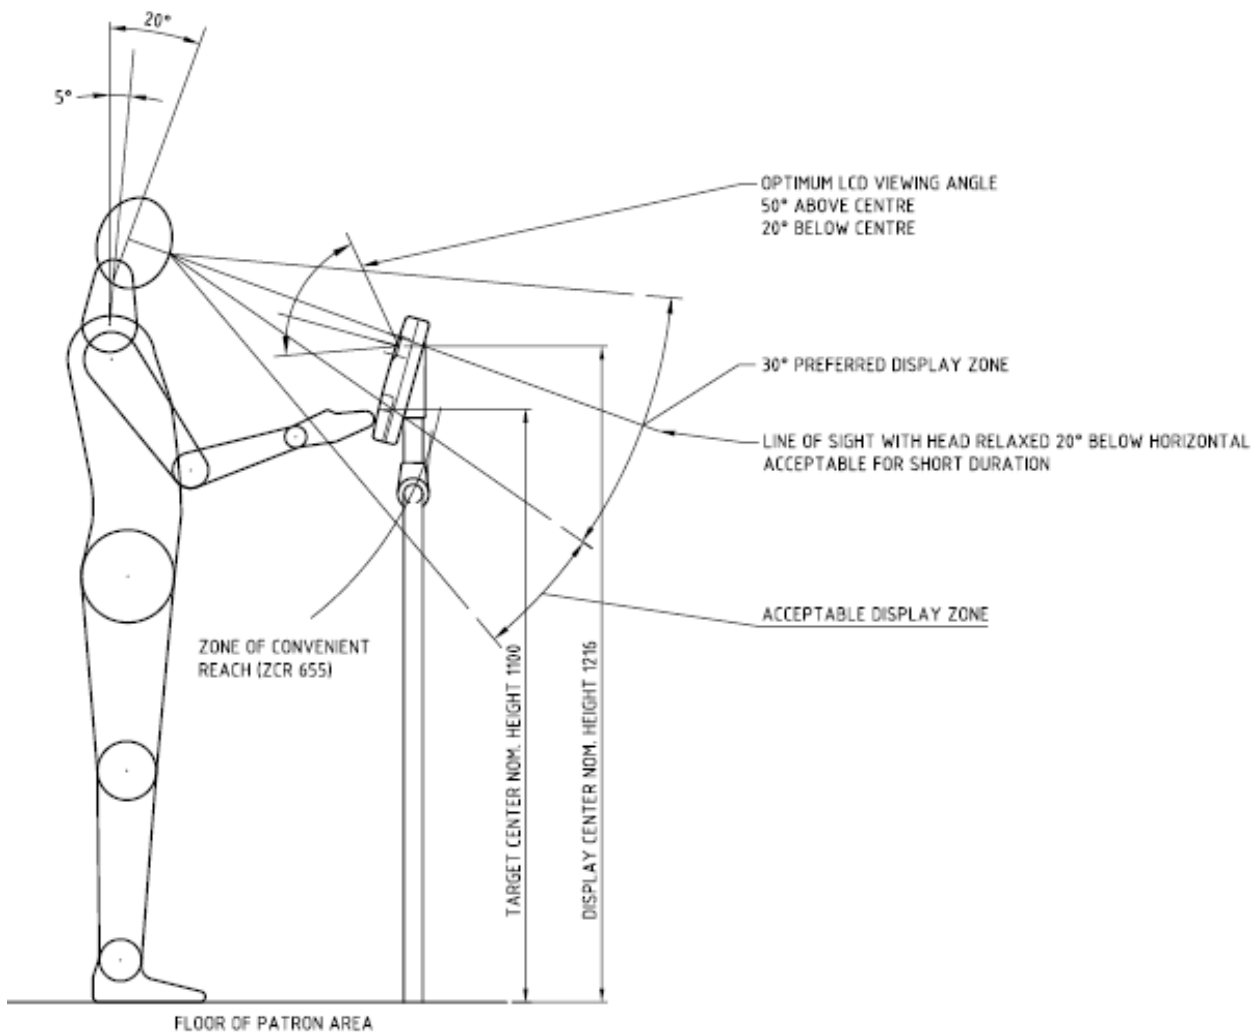

Figure 13: Adept Validator Positioning – Height
- The Adept Validator should be located within easy reach of patrons as shown in Figure 13.